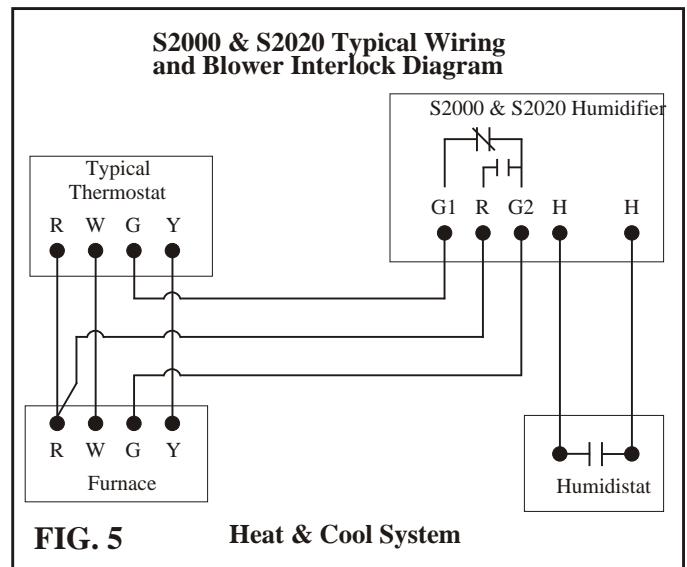

FIG. 5 Heat & Cool System
Figures 5 & 6 describes the suggested interlock wiring arrangement for HVAC systems. Interlocking may be performed on heating systems that provide a 24 VAC NEC Class II terminal for blower control.
The blower relay (G) circuit is connected to the low voltage terminals on the humidifier, Figure 5. The relay contacts must be used to interlock the system blower.
Connect field wiring as shown in Figures 5 or 6.
The humidistat has two (2) screw terminals which should be connected to the low-voltage interlock plug. (Figure 5).